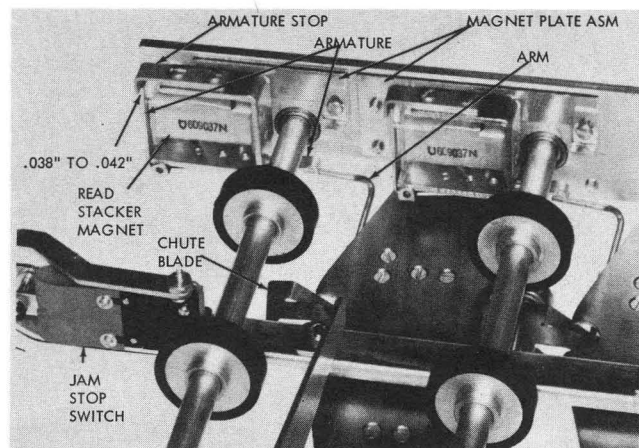

Figure 5-1. 51-80 Column Stacker Select Mechanism
1. Position selector magnet armature stop for .038" to .042" clearance between upper part of armature and stop. See Figure 5-1.